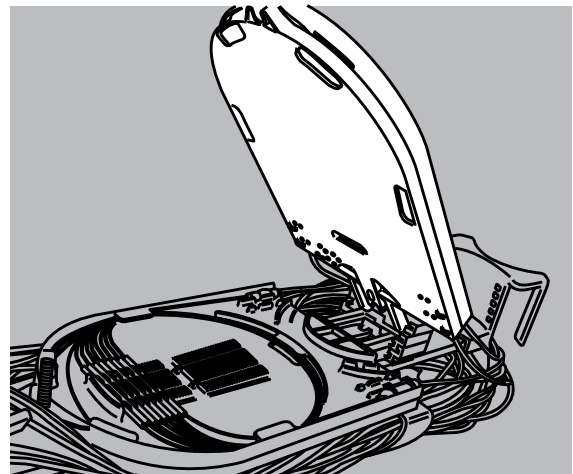

FIGURE 26
26. Simply raise, slide and lock the stacked tray in one continuous upward - backward movement until the desired (horizontal) tray has been reached. (Figure 26)